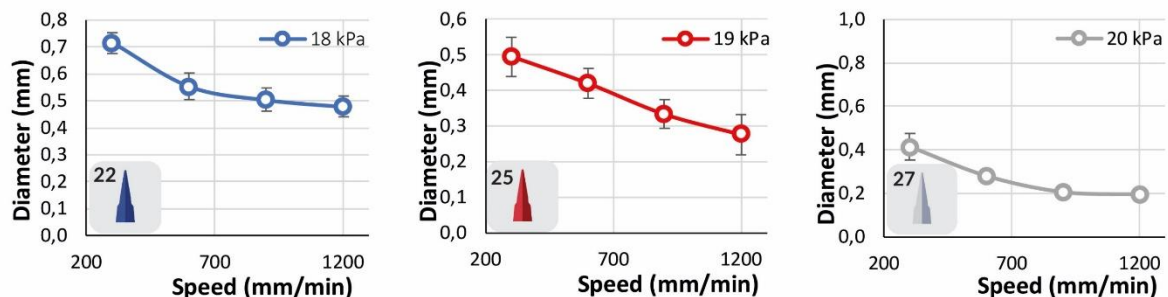

Figure 1. Resulting filament diameter when printing at different nozzle sizes, printing pressures and printing speeds.
- CELLINK XPLORE is not sensitive to the thermal environment during printing and can be printed at room temperature with pressures ranging from 18±4 kPa for nozzle sizes of 20-27G. Figure 1 display the filament thickness achieved using the minimal pressure needed for extrusion of a continuous filament at different printing speeds.